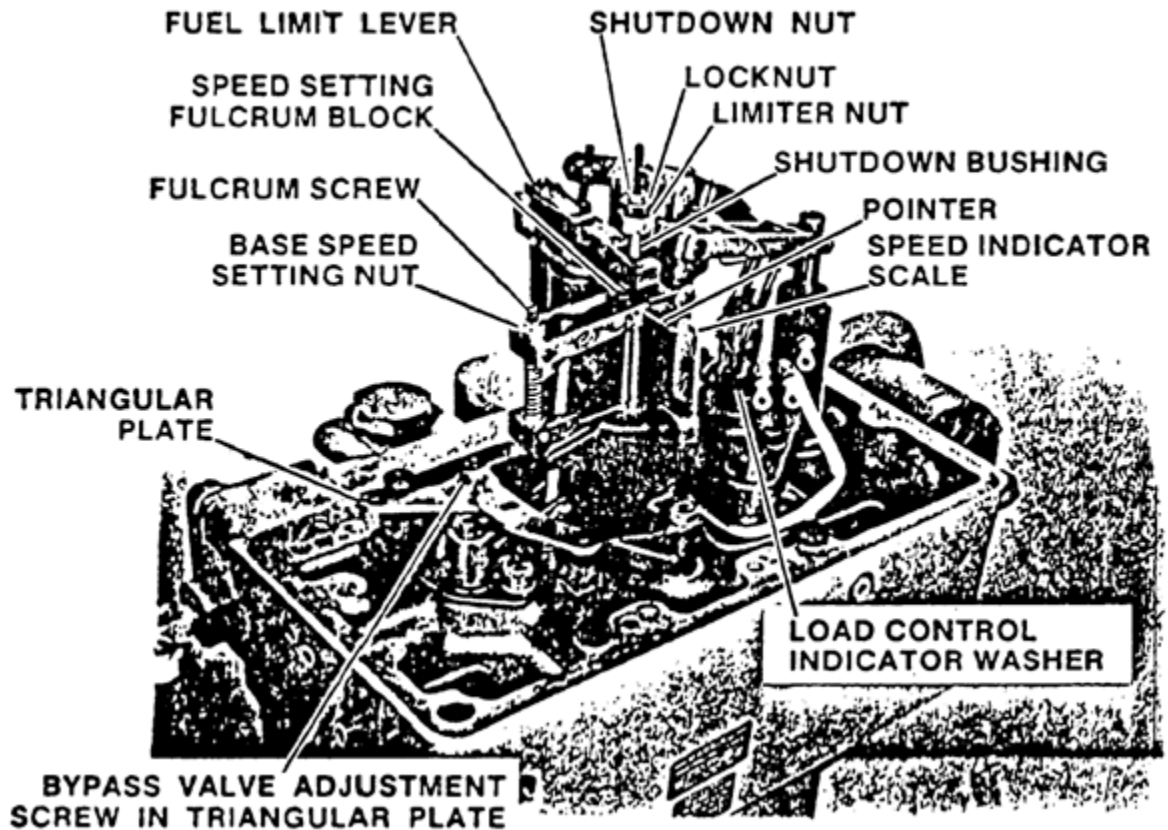

Figure 6-4. Speed Setting Assembly
- 4. As an initial setting, set base speed setting nut down 0.5 inch (13 mm) from top of threads on fulcrum screw. See Figure 6-4.
- b. Adjust base speed setting nut (Figure 6-4) to obtain speed of 813 rpm nominal. Tolerance is 809 to 817 rpm.
- a. Thread shutdown bushing on shutdown rod to obtain 0.032 ± 0.005 inch (0.81 ± 0.13 mm) clearance between bottom of shutdown bushing and top of speed setting fulcrum block. Lock in position with small locknut. See Figure 6-4.
- b. Adjust speed setting stop by turning it down until it contacts speed setting piston then back it out 2 turns and tighten locknut. See Figure 6-4.